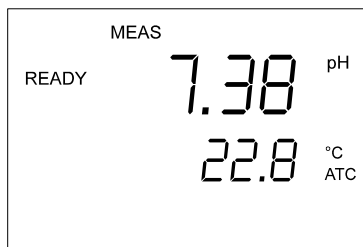

Figure 20: READY
5. Press the \blacktriangledown or \blacktriangle key to scroll to the value of your conductivity standard. Press and hold the \blacktriangledown or \blacktriangle keys to scroll faster. See Figure 20.